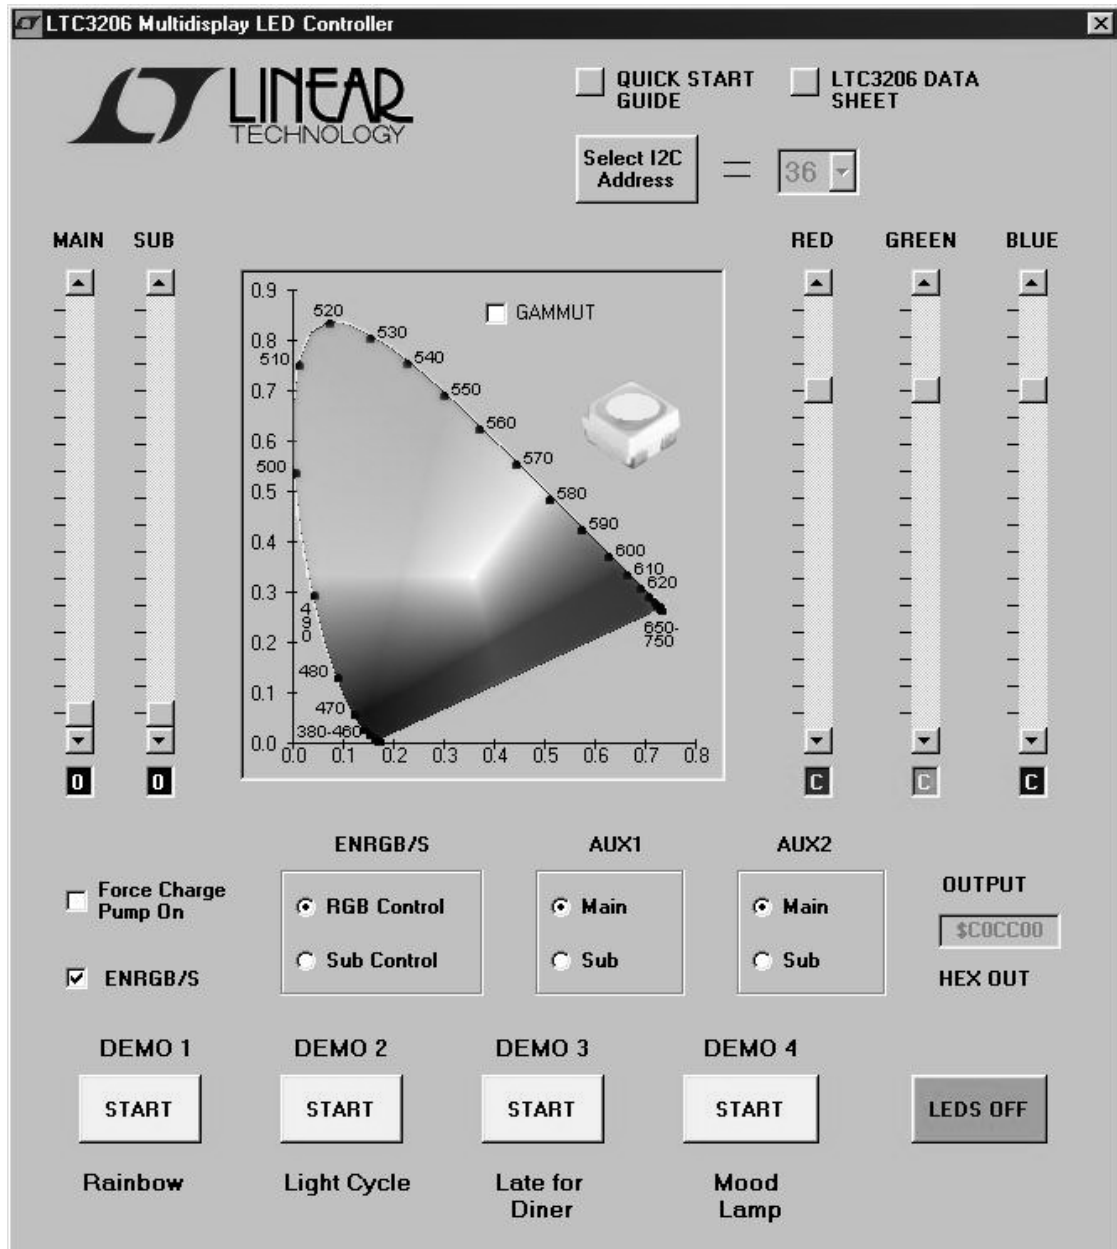

Figure 2. LTC3206 Control Window
3. Run the QuickEval™ program. The program detects the DC749 and displays the LTC3206 control window (shown in Figure 2).